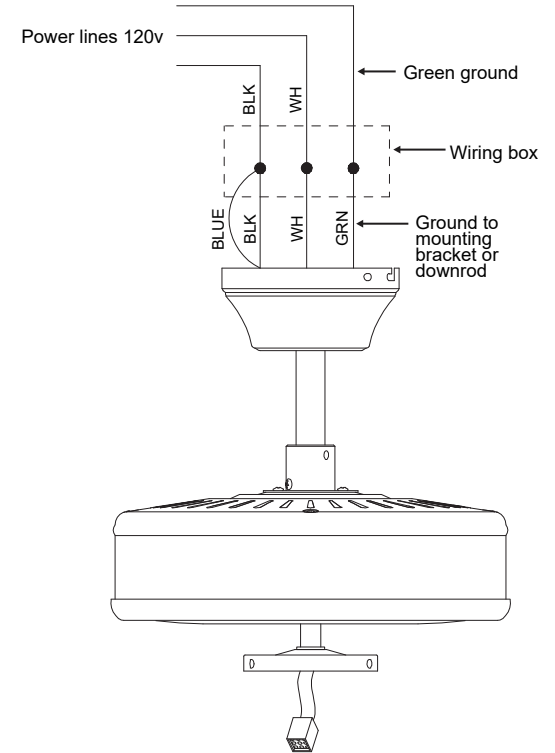

Fig. 11
Step 1. Connect the fan supply (black) wire and light supply (blue) wire to the black household supply wire as shown in **Figure 11**.